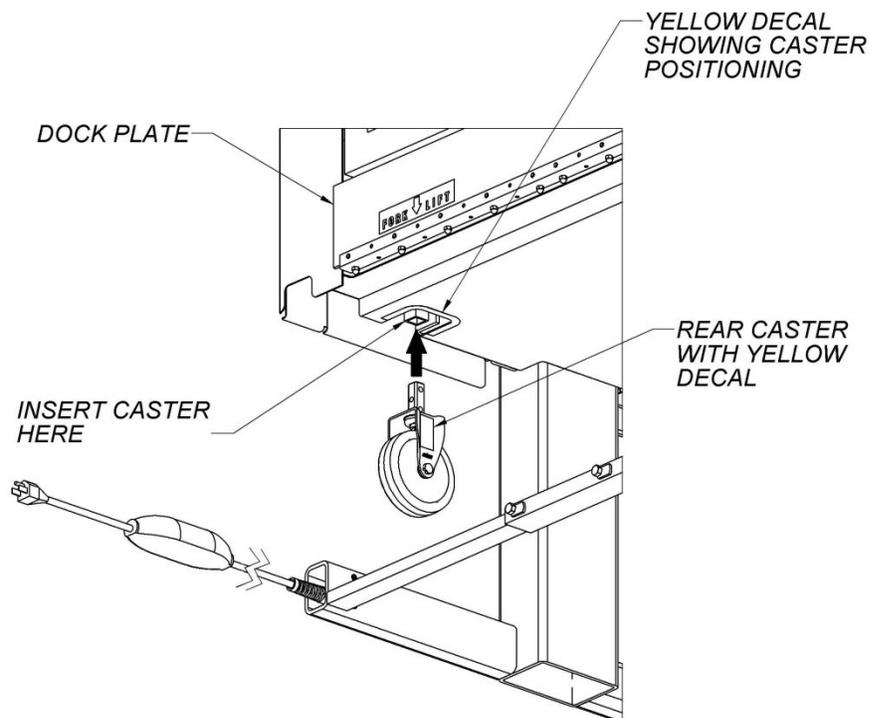
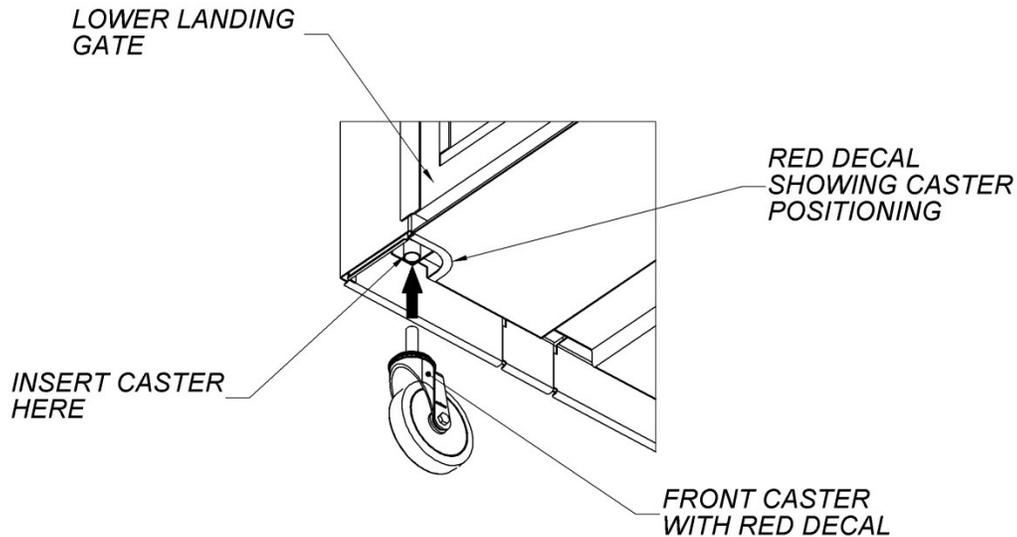

Figure 6
Figure 7
2. Remove all four casters from the left-hand machinery cabinet and install them into the color-coded sockets located at the corners of the platform underside. See Figure 6 and Figure 7. The rigid casters (marked yellow) must be oriented so the lift will roll forward and backward. When correctly installed, the casters will not slide out without being pulled straight down.